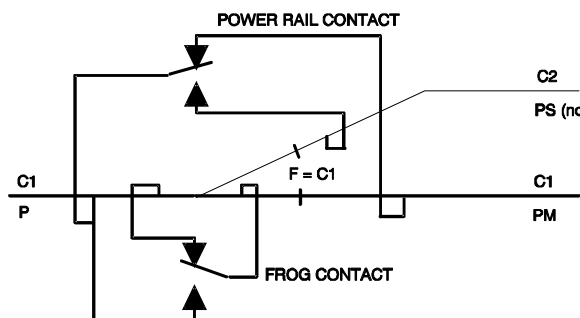

Figure 5-6 Power Routing With Straight Stock Rail Common
Just for completeness, we'll show the switch wired with the straight stock rail as the power rail, and the curved stock rail as the common rail. In Figure 5-6, the common rails are connected to two separate detectors (C1 and C2). We assume that "P" is being fed by a cabselect switch, and is routed by the upper contact to the power rail (PM) in the main line block beyond the switch.